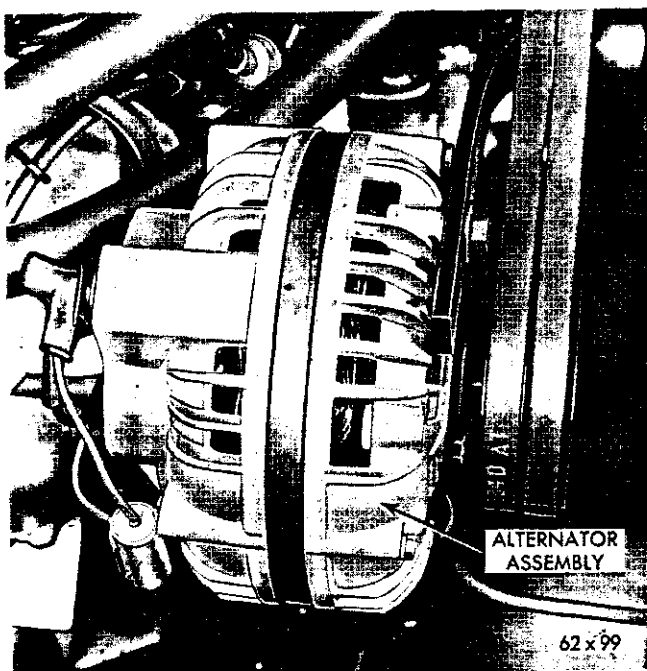
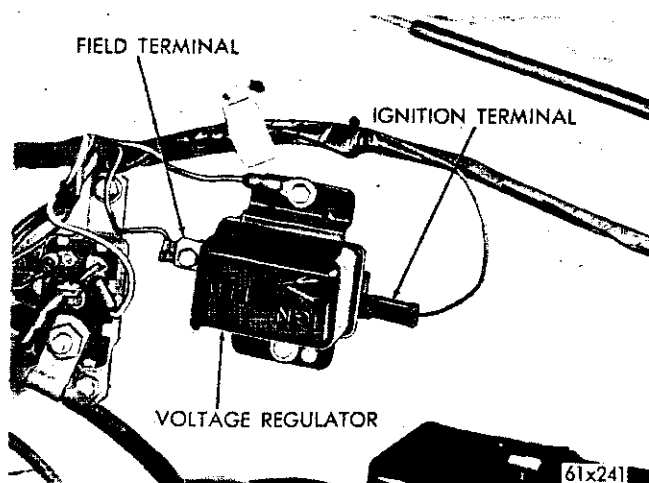

Fig. 43—Alternator Installed
Fig. 44—Voltage Regulator Installed (Typical)
The alternator (Fig. 43) is fundamentally an A.C. current generator, with six (6) built-in silicon rectifiers, that convert the A.C. current into D.C. current. D.C. current is available at the "output" "BAT" terminal. A voltage regulator (Fig. 44) is used in the field circuit to limit the output voltage.